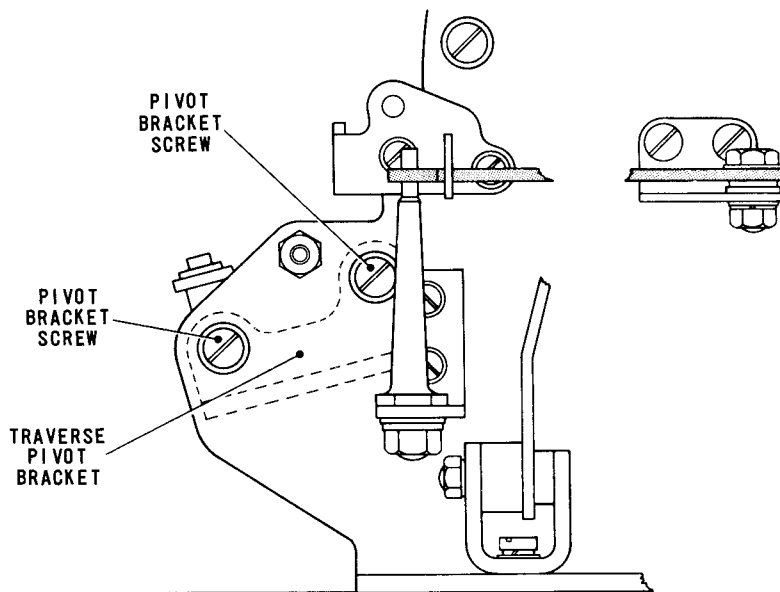

Fig. 4.34 PECKER/SELECTION PIN ENGAGEMENT
- 40.2 To adjust, remove the operation counter, slacken the screws securing the traverse pivot bracket, Fig.4.34, and reposition the bracket until the above conditions are satisfied for both sets of pins. Tighten the bracket screws and refit the operation counter.